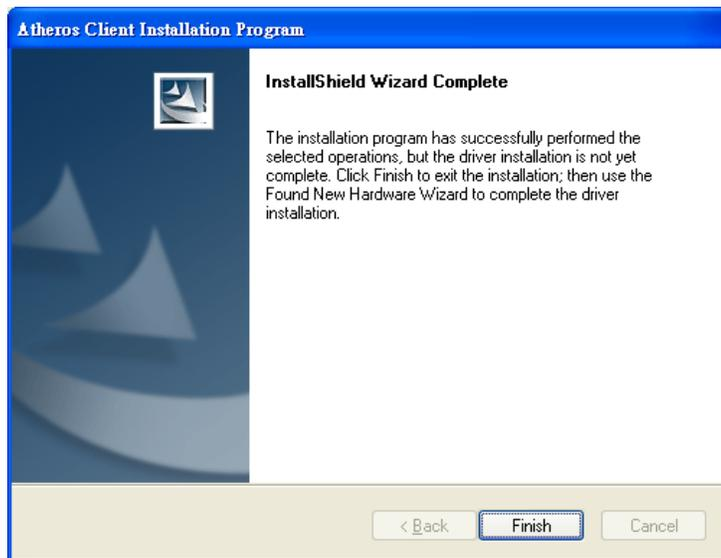

Figure 6-34: Wireless LAN Driver Install Wizard Completed
Step 13: When the installation is complete the Install Wizard Completed screen in **Figure 6-34** appears.